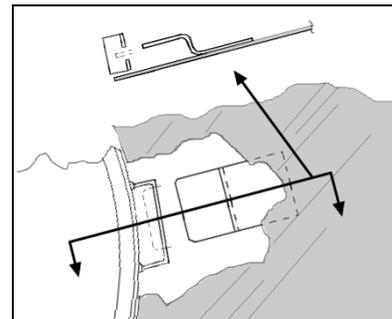

Figure SX-3—Detail of Clip on the Inside of the Electronics Cover (cut-away and cross-section)
5. Slide the cover to the right to unhook a clip on the left side, then lift off. For a detail of the cover clip see Figure SX-3